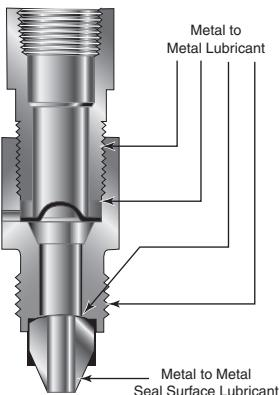

Figure 6
**6. Safety Heads** - The threads and end of the hold down nut should be lubricated. Refer to figure 6 for lubrication sites on the safety head.